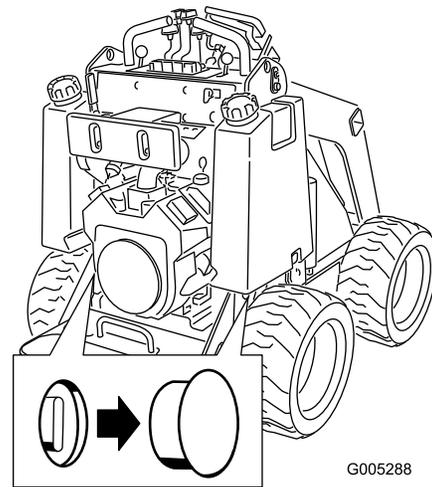

Figure 11
2. Remove the plug covering each tow valve, located under each fuel tank (Figure 11).